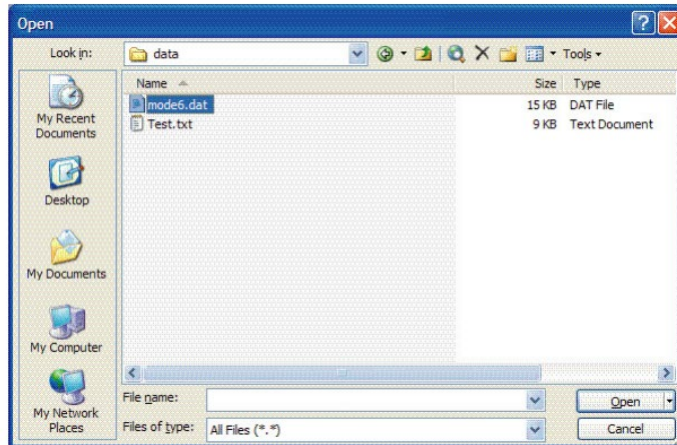

Figure 9. *HyperTerminal window with streaming data*
1. In Excel, click **Open** and choose the name of the spectrum file saved while in **Mode 6**. Be sure to select **All Files (*.*)** under **Files of type:** while searching, as shown in Figure 9.